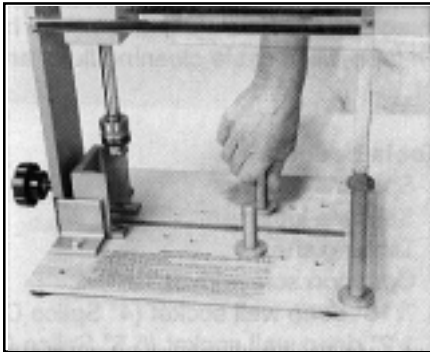

FIGURE 6 – PUT STOP POSTS INTO CUTTER
4.03 Insert stop-posts in tapped holes in base of cutter corresponding to the 6.5" (165.1 mm), 8.0" (203.2 mm) or 9.5" (241.3 mm) End Plate diameter and hand tighten firmly. (Figure 6)